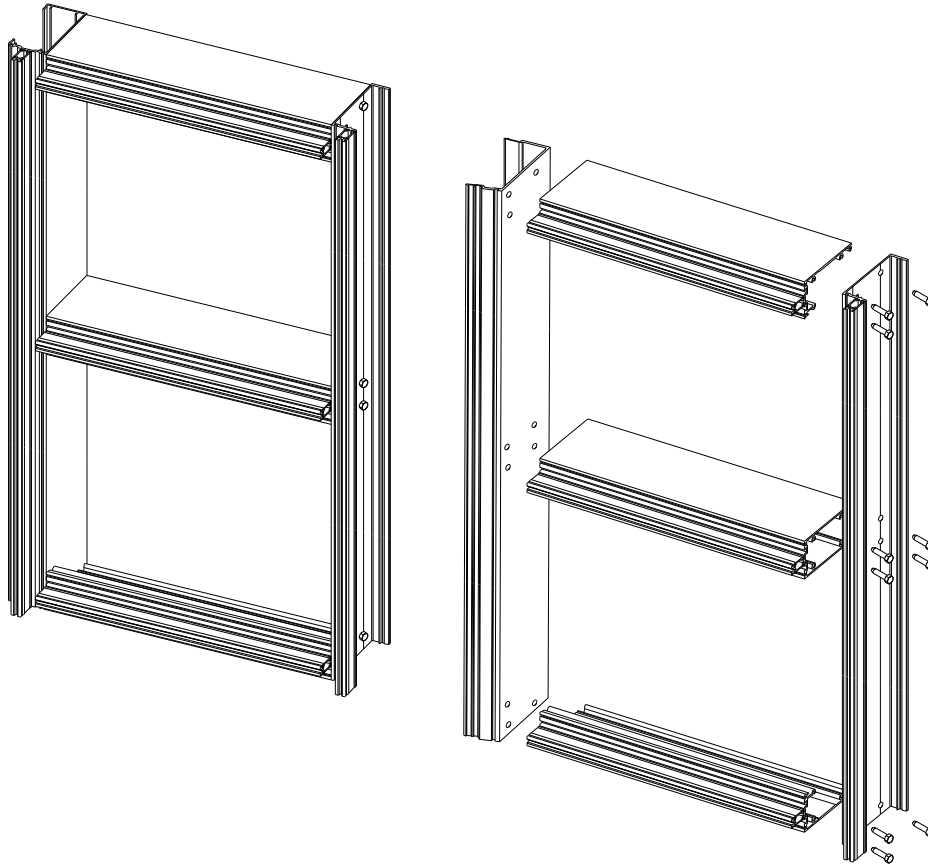

Figure 8: Frame Assembly Guide
- 5.1 Starting with the left jamb of the opening, lay out verticals and horizontals for assembly of the bay. **See FIGURE 8.**